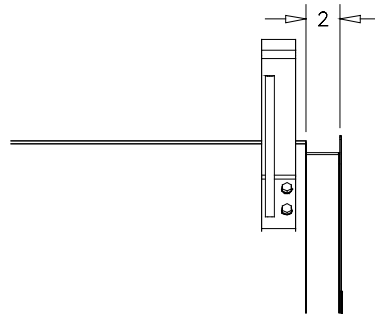

Figure 14
**Note:** The tarp must be 2" away from the face of the front hood.(Figure 14)